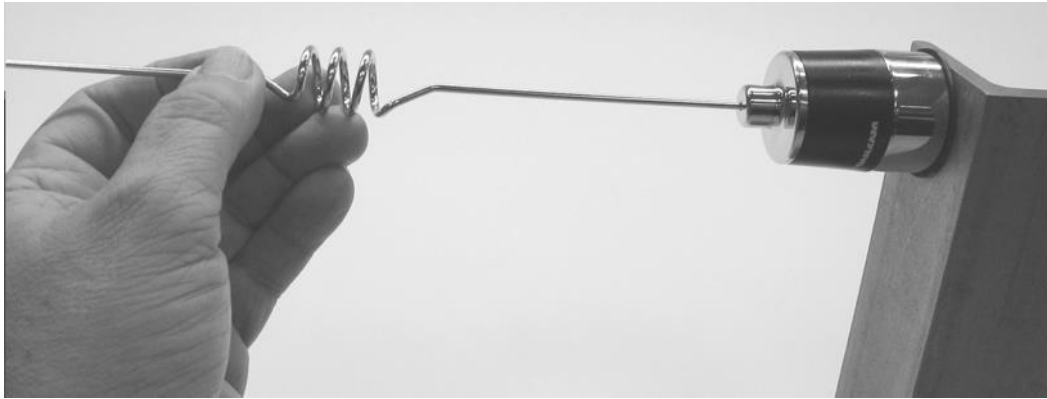

Figure D-5 Whip Antenna Inserted into Collar
1. Insert whip antenna into collar (Figure D-5).